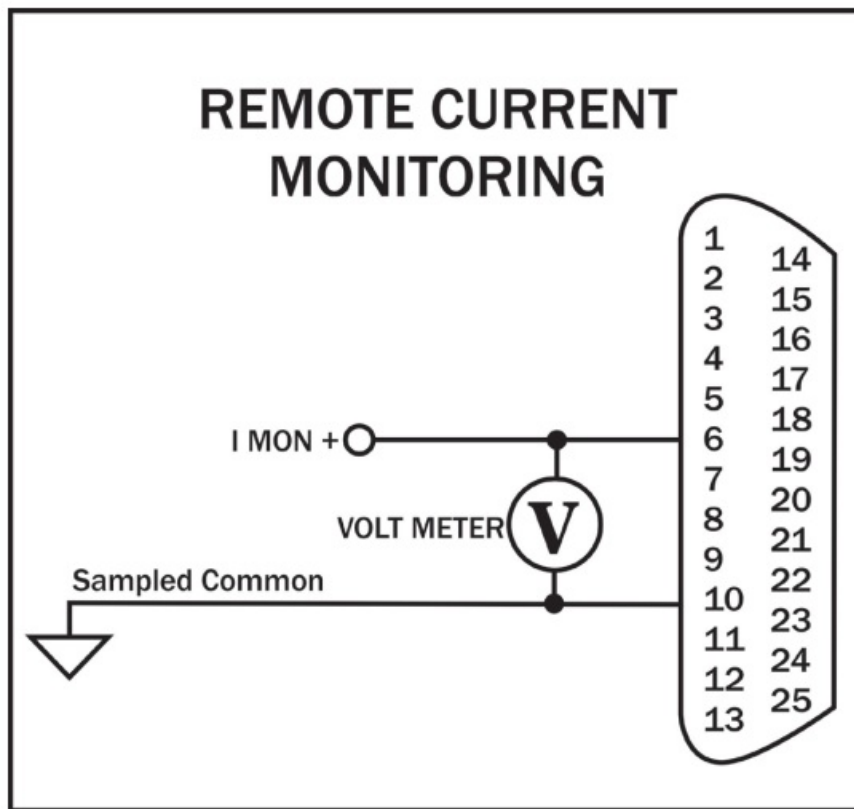

Figure 5.5 – Remote Current Monitoring
- Connect across PIN 6 (I MON+) and PIN 10 (Sampled Common). See Figure 5.5.